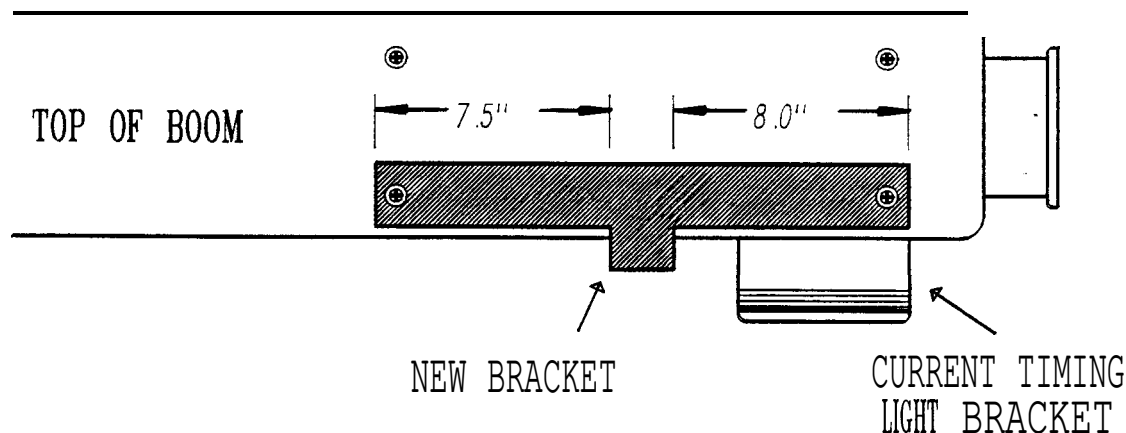

FIGURE 1 TIMING LIGHT **BRACKET** MOUNTING POSITION
1. Remove the two screws on-top of the Boom as shown in Figure 1.